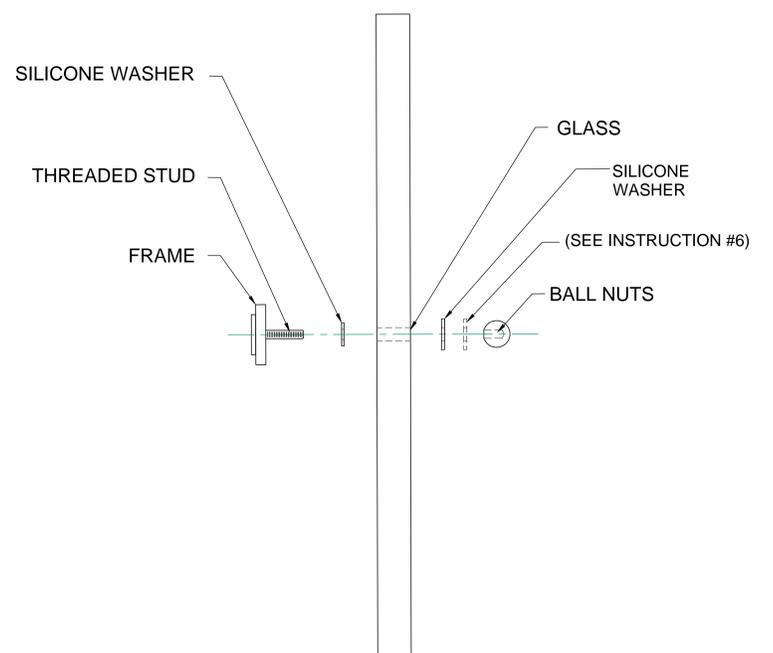

FIGURE-03
6. Install glass unto the ring and secure it with silicone washers and ballnuts. (See sequence on Figure-03) If the glass is thin and loose, add an additional silicone washer.